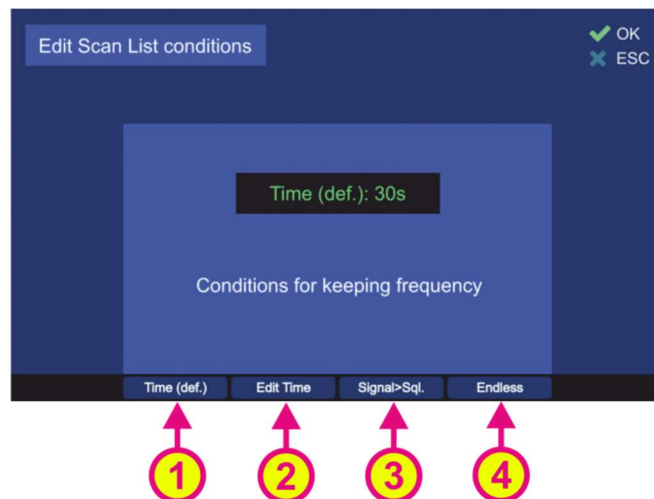

Figure 63. "Scan List Conditions" dialog
- “Time (def.)” hotkey (s. Figure 63, position 1) defines the behavior of the “Scan List” algorithm if the active frequency (signal level > squelch level) has been found. If this hotkey is pressed, the default time of 30 seconds will be adopted after confirming this setting with “OK”. The scan algorithm will stay for the default time of 30 sec on an active frequency before continuing with scanning of the next frequencies.
- Pressing the hotkey “Edit Time” (s. Figure 63, position 2) will open a dialog for editing the time of staying on the actively received frequency before continuing with the scan procedure.
- Pressing the hotkey “Signal>Sql.” hotkey (s. Figure 63, position 3) defines the time of staying on the actively received frequency before continuing with the scan procedure. If this setting is confirmed, the scanning procedure will stay on the actively received frequency as long as the signal level is higher than the squelch level.
- If the hotkey “Endless” (s. Figure 63, position 4) was pressed and confirmed with “OK”, the scan algorithm will stay on the actively received frequency as long as the user terminates the scan or skips the current frequency.